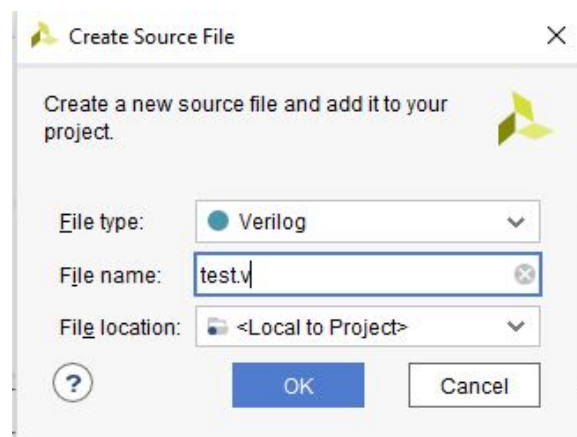

FIGURE 1.8: Naming Source File
9. You will be prompted to select a *File type*, *File name*, and *File location*. Make sure to pick *Verilog* and *Local to project* for the type and location. Give your file a name ending in **.v**. (Figure 1.8)